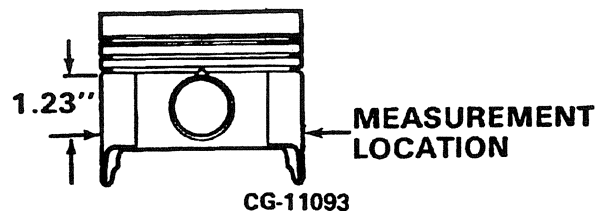

Figure 5.21. Piston Skirt Dia. Measurement (90° to pin bore)
- g. If cylinder bores exceed out-of-round and/or taper specifications reboring may be required as described in Section 6. Such cylinder bore reconditioning will require the use of oversize service pistons. In addition to the standard size service piston .010", .020" and .030" oversize pistons are available. Verify piston size by measuring skirt diameter (Figure 5.21).